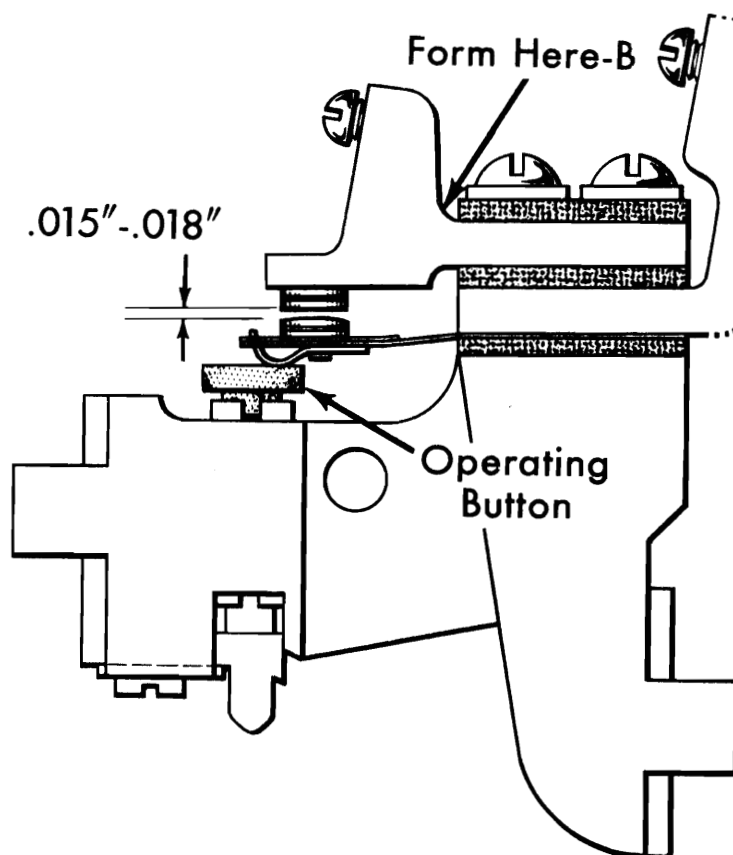

Figure 4. Plunger Circuit Breaker
2. The upper contact support should be formed at point B (Figure 4) to provide a .015" to .018" clearance between the upper contact and the lower contact when in its normal position resting on the plunger. Before the upper contact is bent, the operating button is installed which gives the closest starting clearance. The white button 205740 is standard; the red button 186882 is .015" shorter.